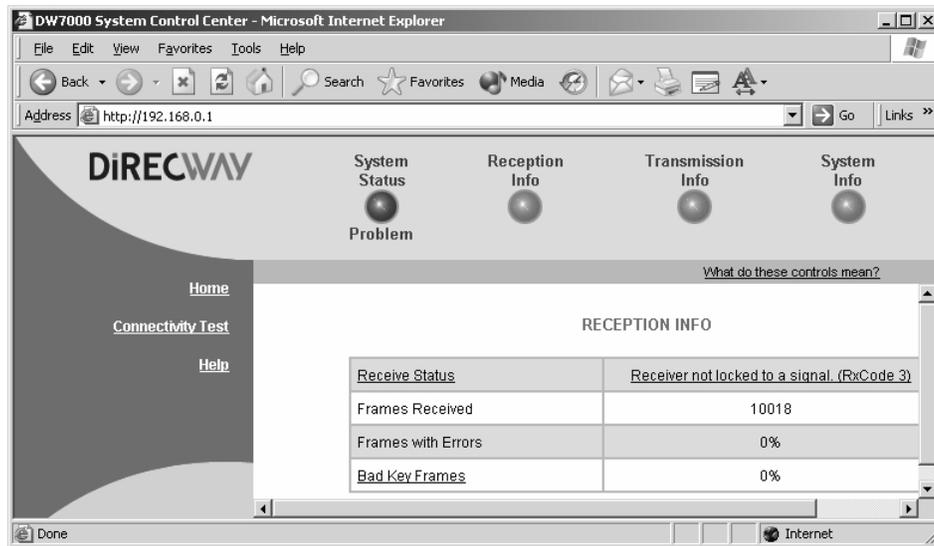

Figure 82: Reception info
1. At the System Control Center, click the **Reception Info** indicator. The Reception Information page appears. See Figure 82.